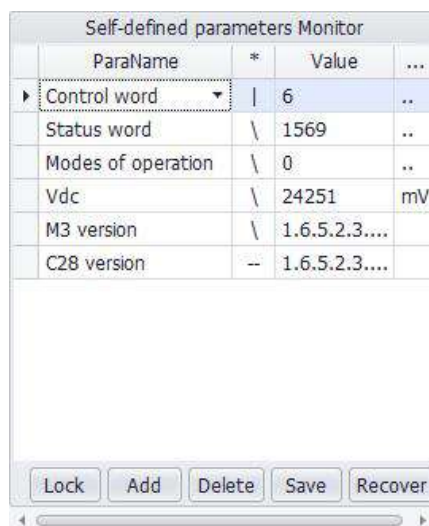

Figure 2-5 Parameter monitoring
①Click on the "**Edit**" button to open the parameter monitoring window settings, as shown in Figure 2-5.